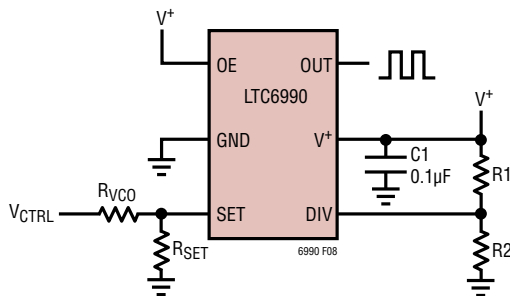
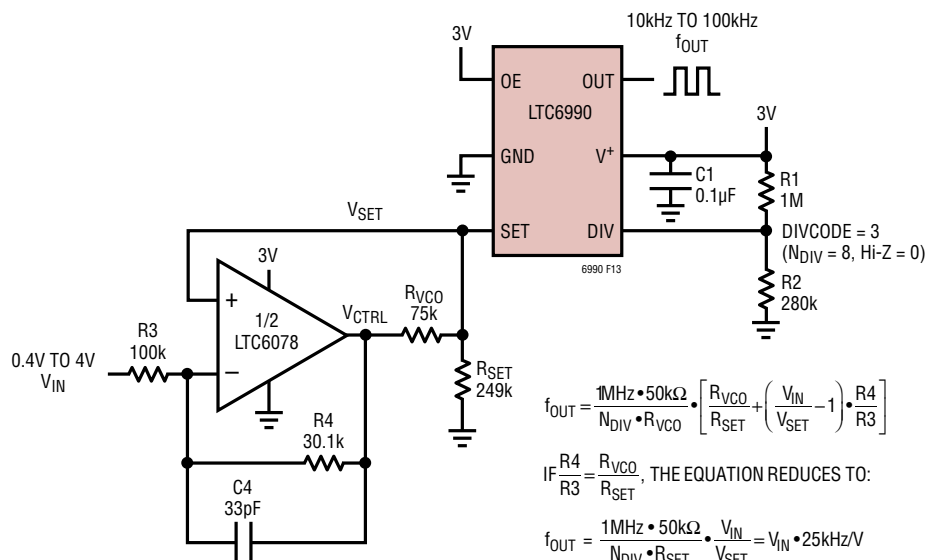

Figure 11. Voltage Controlled Oscillator
Figure 13. VCO with Reduced ΔV_{SET} Sensitivity
Operating the LTC6990 as a voltage-controlled oscillator in its simplest form is achieved with one additional resistor. As shown in Figure 11, voltage V_{CTRL} sources/sinks a current through R_{VCO} to vary the I_{SET} current, which in turn modulates the output frequency as described in Equation (2).
For wide frequency range applications, the non-inverting VCO circuit shown in Figure 13 is preferred because the maximum frequency error occurs when the frequency is highest, keeping the relative error (in percent) much smaller.
Depending on the application's requirements, the non-inverting VCO circuit in Figure 13 may be preferred for this wide of a frequency variation as its maximum inaccuracy due to V_{SET} error is only $\pm 9\%$ and can be reduced to only $\pm 3\%$ with a small change to the voltage tuning range specification.
Figure 13 shows a VCO that reduces the effect of ΔV_{SET} by adding an op-amp to make V_{CTRL} dependent on V_{SET} . This circuit also has a positive transfer function (the output frequency increases as V_{IN} increases). Furthermore, for positive V_{IN} voltages, this circuit places the greatest absolute frequency error at the highest output frequency. Compared to the simple VCO circuit of Figure 11, the absolute frequency error is unchanged. However, with the maximum absolute frequency error (in Hertz) now occurring at the highest output frequency, the relative frequency error (in percent) is greatly improved.